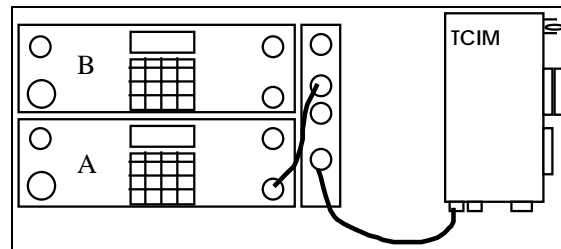
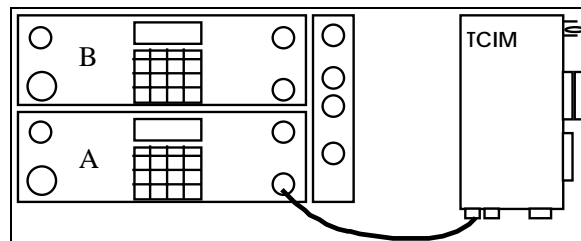

Figure 17. Connecting Radio Cable when using FSK.
Figure 18. Connecting Radio Cable when not using FSK.
- b. When the network is using FSK encoding and the radio model is earlier than the PI (e.g., ICOM), connect the radio interface cable through the FSK adapter (1 watt board, amplifier board, etc.) to the right of the radio as shown in Figure 17. Otherwise, connect cable directly to radio as shown in Figure 18.